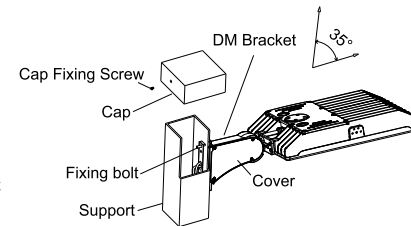

Figure 14
**2. DIRECT MOUNTING (DM)**
Step 1: Open the side lid of direct bracket, let the power cable go through the direct bracket. Fix the direct bracket to the end of lamp body with bolt. Let the pole cable go through the direct bracket. (Figure 14)